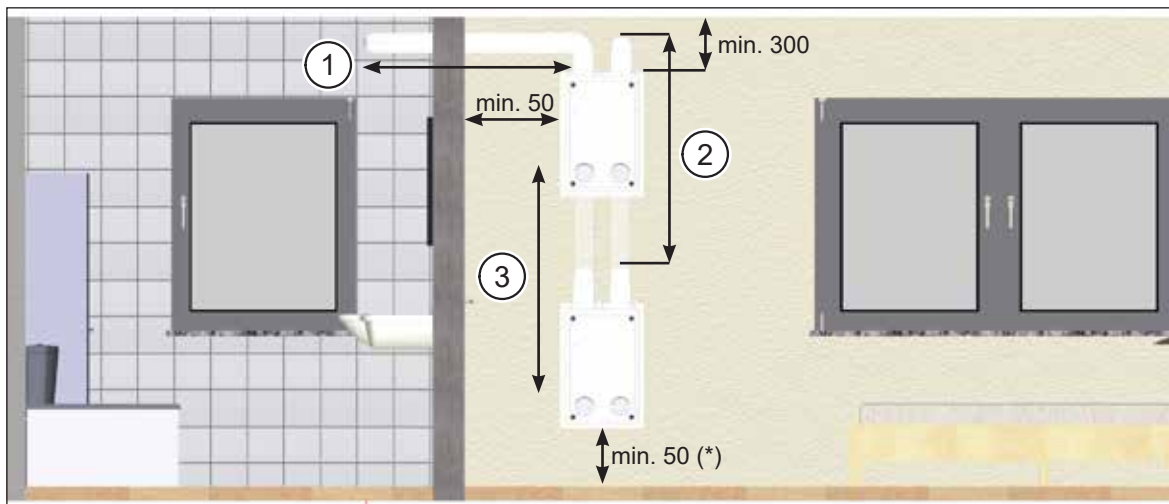
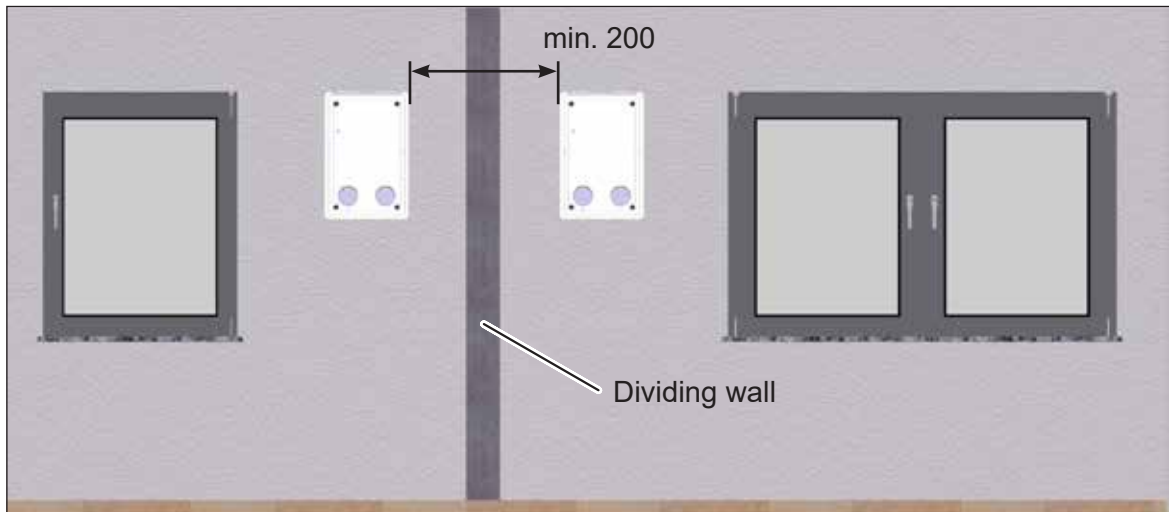

Fig. 4: Minimum distances and options for positioning the M-WRG-II M-U² installation kit, dimensions in millimetres
Fig. 5: Lateral minimum distance between two wall boxes, dimensions in millimetres
- The flush-mount installation kit (wall box) must be installed so that the openings for the flexible pipe / flat ductwork connections always point up (see Fig. 4).
- The flat ductwork system offers considerable freedom when positioning the extract air and supply air openings and the installation kit. The openings may be made directly on the installation kit or offset horizontally (item 1 in Fig. 4) or vertically (item 2 in Fig. 4). This allows the installation kit to be positioned exactly as required (item 3 in Fig. 4).
- ▶ Maintain the following minimum distances (see Fig. 4 and Fig. 5):
- The distance between the side and bottom edges of the wall box and adjacent surfaces should be at least 50 mm (exception: if a condensate connection is used, see (*) in Fig. 4). The ventilation unit will be easier to operate if this minimum distance is maintained. It also allows the air filter to be replaced without obstruction.